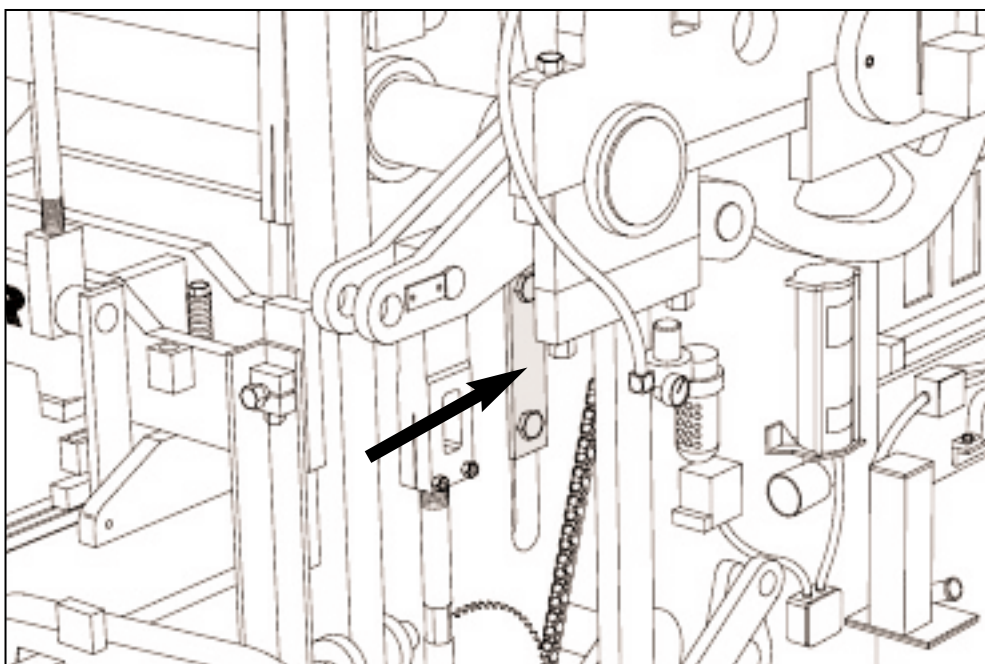

Figure 4.22 LOOSEN "T" CLAMPS ON BOTH SIDES.
a. Loosen the "T" clamps on each side of machine that secures machine side plate to mold throat plate (figure 4.22).